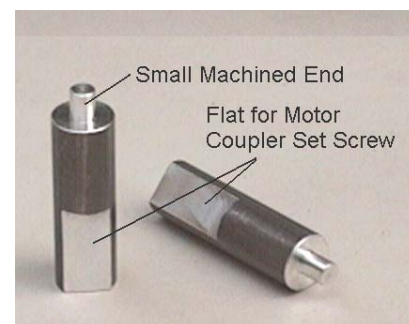
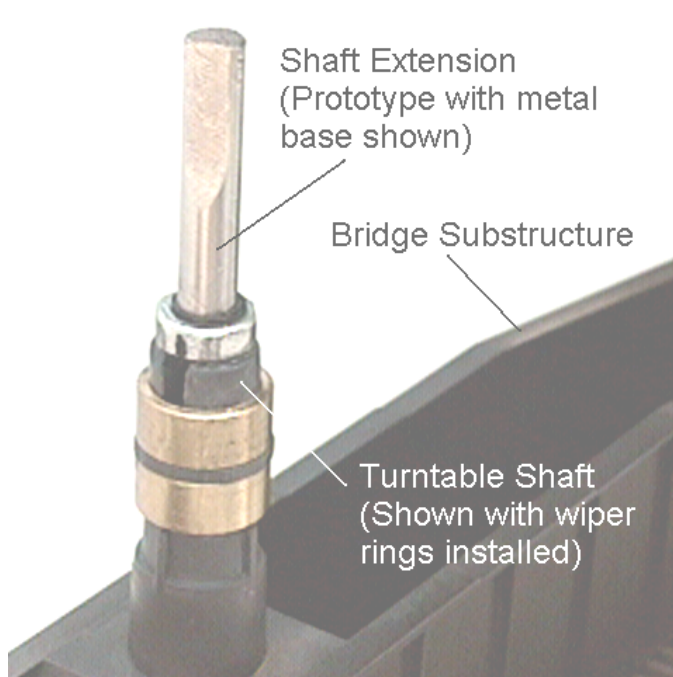

Figure 3: Walters Shaft Extension
Figure 4: Turntable Bridge with Shaft Extension Installed
- 12) Carefully debur the hole, and test fit the shaft extension in the end of the turntable shaft by inserting the small machined end of the extension into the shaft. Refer to Figure 3 and Figure 4.
Note: The shaft extension shown installed in Figure 4 is the prototype version; your extension will look like that shown in Figure 3 and will not have a separate metal base. *[Editor's Note: a photo of the production extension installed on the turntable is not available, since removing the prototype from our test turntable by cracking the CA bond would have likely destroyed the turntable shaft.]*
Note: Figure 4 shows the bridge wiper rings installed. It is recommended that these be installed prior to installation of the shaft extension.